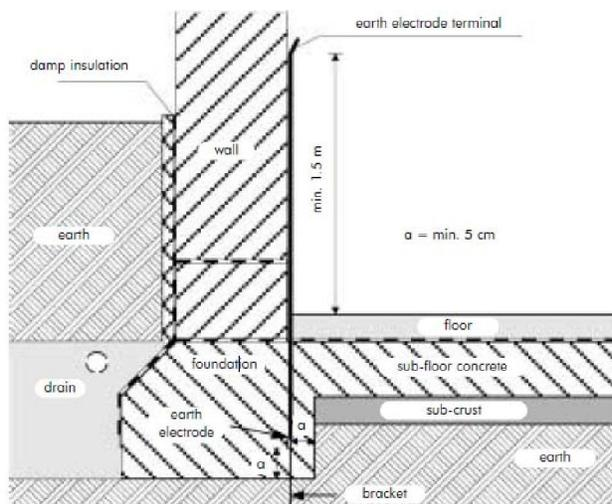

Figure 1 – Illustration of the placement of the foundation earth electrode in a foundation without concrete reinforcement.
- (1) in a foundation without concrete reinforcement (Figure 1) &
The steel elements can be galvanised (i.e. with a zinc coating), but this is not necessary if the layer of concrete covering the electrode is greater than 50 mm, because the concrete ensures sufficient protection against the corrosion, as shown in Figure 1.
In a foundation without concrete reinforcement (Figure 1) the electrode usually follows the contour of building foundation, i.e. it is placed under the main walls. In buildings with extensive foundations, the electrode is usually made in the form of loops, covering the parts of foundation outlines, and connected to each other.
The terminal of the foundation earth electrode should have a minimum length of 150 cm above the floor level (Figures 1 and 2). It should be placed as close as possible to the main earthing terminal of the building installation. The connection of the foundation earth electrode to the lightning protection should be placed outside the building.